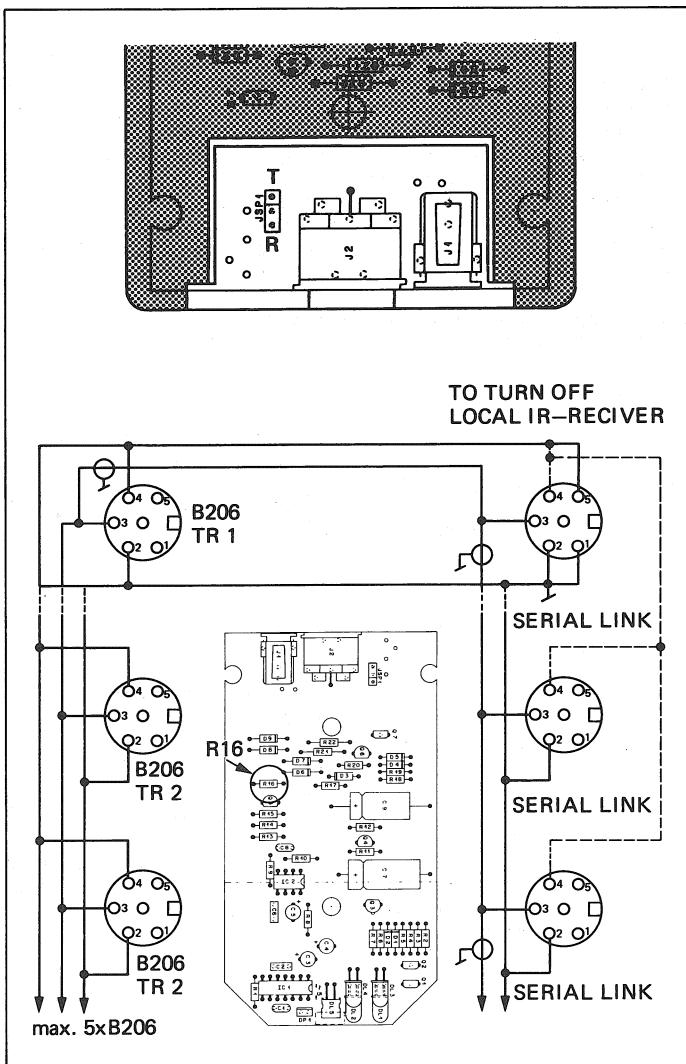

Fig.4.1
2. Wire DIN connector for B206 Transceiver and the SERIAL LINK socket according to Fig. 4.1.
As can be seen from Fig. 4.1, several B206 Transceivers as well as several REVOX units can be connected in parallel with SERIAL LINK sockets. The installation must be executed very carefully and the connecting cables should be prepared by an experienced technician.
* On all units with SERIAL LINK the internal IR receiver can be switched off. (In the connector Link pin4 with pin5, as well as pin1 with pin 2. Caution in the case of parallel-connected units: see Fig. 4.1.)